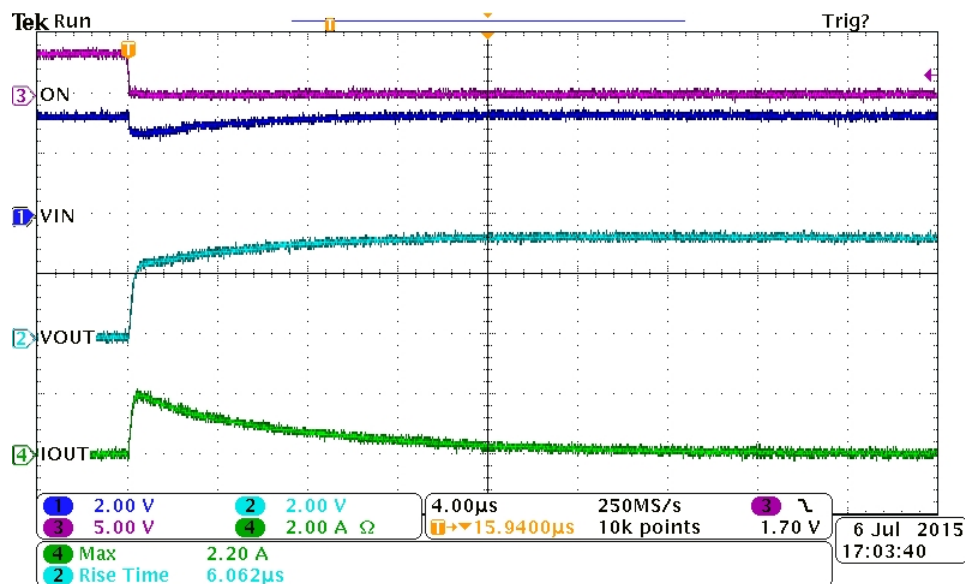

Figure 7. Inrush Current for PMOS Discrete Circuit #1
When the GPIO signal (ON) is brought low, the PMOS transistor is turned on and its load is connected to the power supply (VIN). Because the PMOS has no controlled turn on, the voltage on the power supply decreases heavily due to the sudden demand for current. As the current ramps up to its final value, the voltage on VIN stabilizes. Figure 7 shows the stabilizing behavior of the PMOS Discrete circuit.